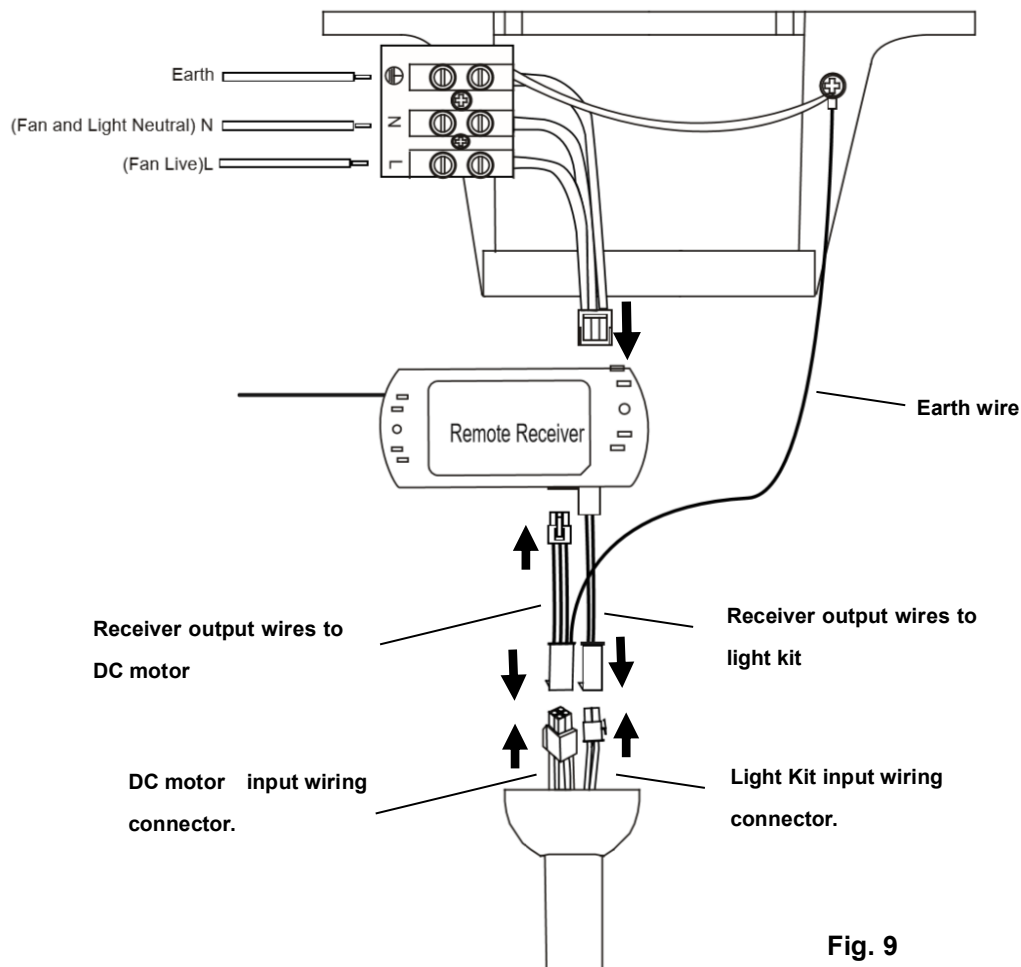

Fig. 9
PREPARE AND COMPLETE THE ELECTRICAL WIRING -- WIRING DIAGRAM (FIG. 9)
From mains supply to mounting bracket terminal block: (Fig. 9)
From mounting bracket to receiver and motor : (Fig. 9)
5. Connect the output wires of DC motor driver/receiver (from mounting bracket with earth wire) to the output of the DC motor driver/receiver (Fig. 9). Connect the output wires of DC motor driver/receiver with earth wire (from mounting bracket with earth wire) to the input of the fan motor (Fig. 9)